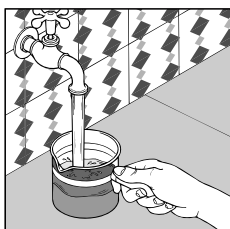
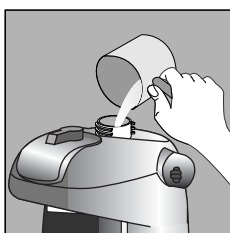

fig. 1
fig. 2
- 2 Using the carafe supplied (fig. 1) pour water into the boiler (fig. 2) according to the amounts shown in the table on page 10.